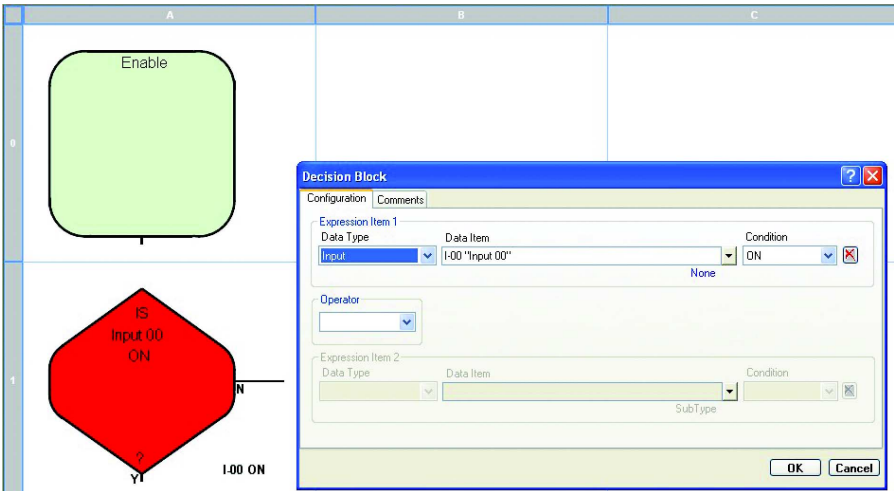

Figure 1-6 “Decision Block” dialog box for cell A1
4. Enter data in the various fields in the dialog box as shown in Figure 1-6. Click the “OK” button when finished.